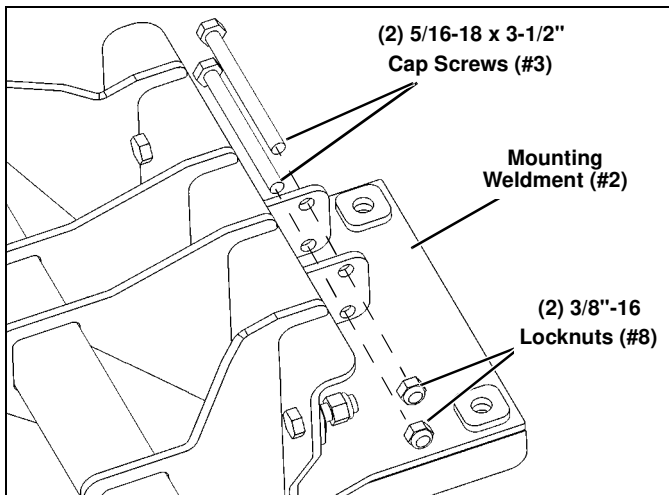

Figure 5
7. Insert (2) 5/16"-18 x 3-1/2" Cap Screws (#3) through the center rear tabs of the vehicle frame and Mounting Weldment (#2). Secure with a 3/8"-16 Locknut (#8). (See Figure 5.)